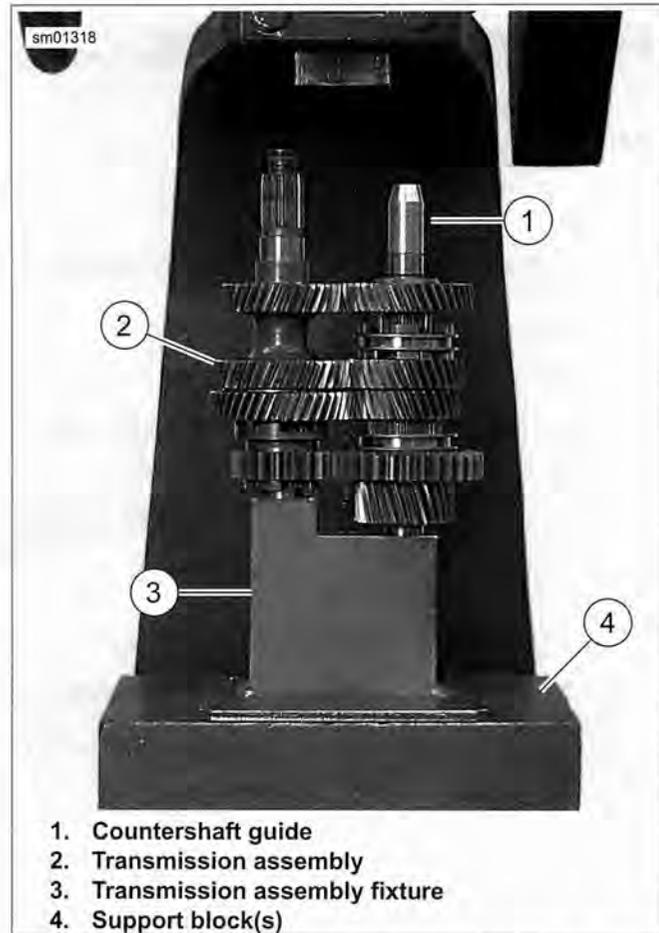

Figure 5-90. Transmission Assembly on Fixture
2. See Figure 5-90. Place transmission assembly (2) onto TRANSMISSION ASSEMBLY FIXTURE (Part No. HD-46285) (3) on press bed. Use support block(s) (4) if necessary.
4. Screw COUNTERSHAFT GUIDE (Part No. B-43985-4) (1) into end of countershaft.